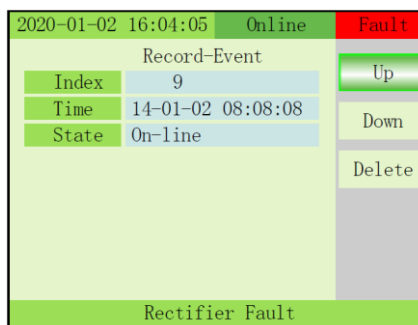

Fig. 3-22 Record - Events menu
15) RECORD-EVENT: Press to select Up or Down or Delete. Press OFF key to confirm (Fig. 3-22).